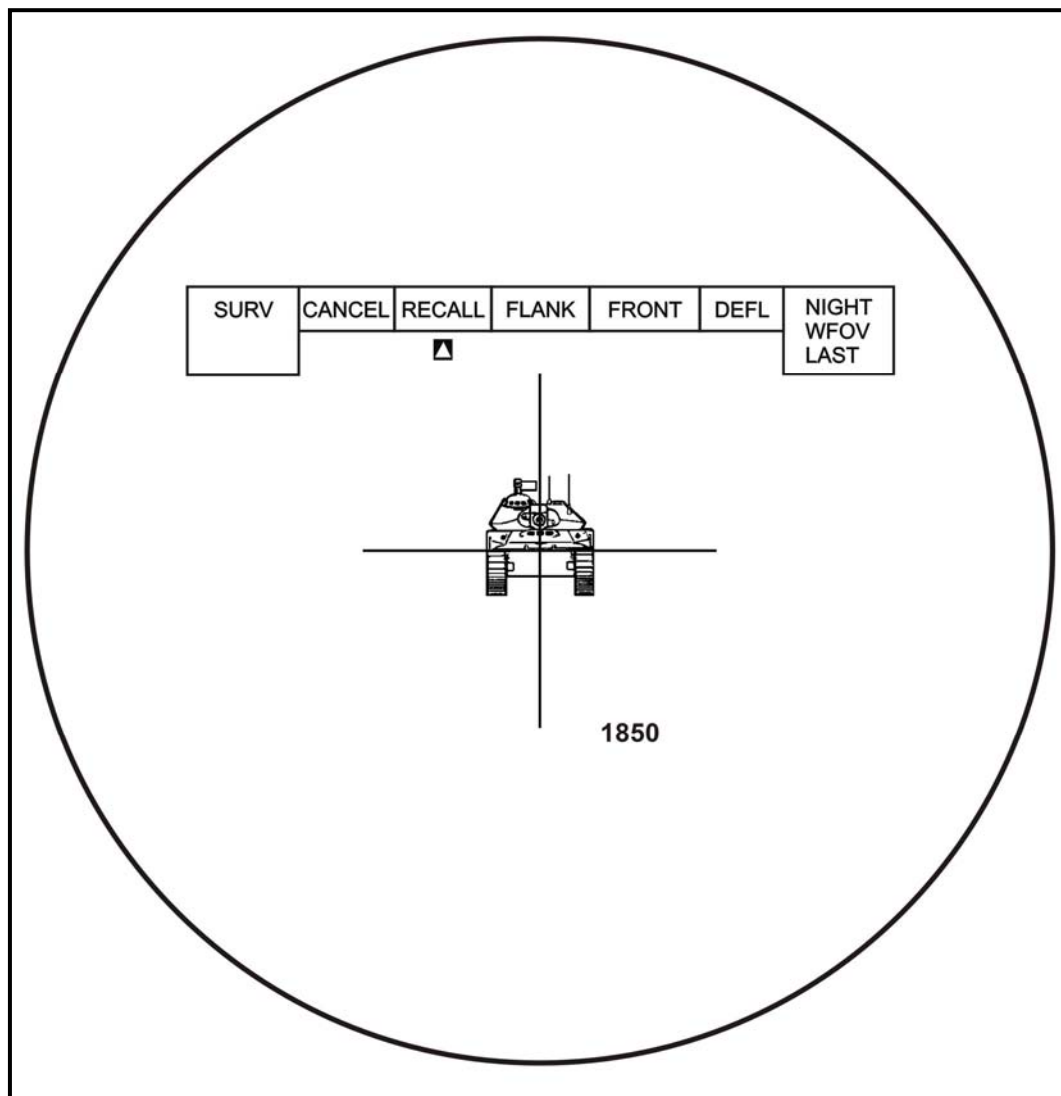

Figure 2-33. RANGE menu selections.
(2) **Range Menu.** The range menu is displayed when the gunner selects RANGE from the MAIN MENU. The primary purpose of this menu is to give the gunner the capability to passively determine range to a target without using the LRF (Figure 2-33). The gunner can determine the range for flank, front/rear, and hull defilade targets. The range menu has five selections:
- RECALL. Selecting RECALL recalls the last LRF ranging in meters (active) stored in the FCS memory (for example, 1,850 meters as in Figure 2-33). If more than two minutes have passed since the last ranging, the range indicator area will display zero (0).